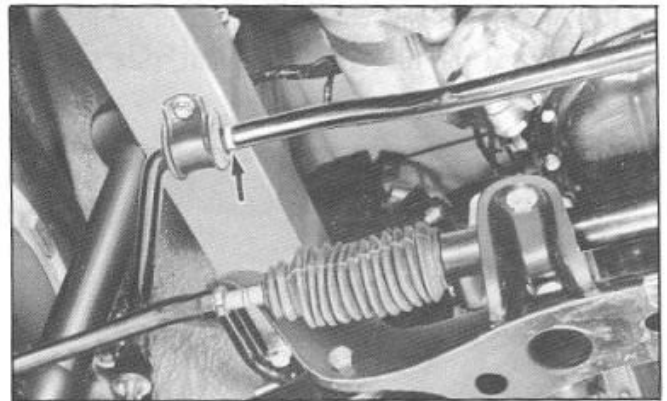

Fig. FA-12 Installing stabilizer bar
- (1) Tighten the transverse link mounting bolts and stabilizer bar body side installation bolt to the rated tightening torque with the vehicle loaded with the standard load (two passengers).
- (2) Install the stabilizer bar correctly so that the position painted in white is in the position indicated in Figure FA-12.
- (3) When assembling the stabilizer connecting rod and transverse link, be sure to tighten the first nut to 1.2 to 1.9 kg-m (8.7 to 13.7 ft-lb) tightening torque and tighten the lock nut to secure the first nut.